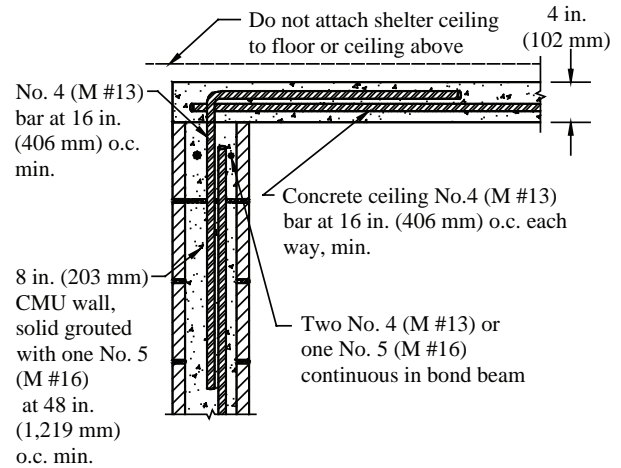

Figure 2
A ceiling system using 7-in. (178-mm) deep bottom chord bearing steel joists infilled with concrete masonry units and grout to a nominal 8-in. (203-mm) depth was also tested and found to withstand the 15 lb 2 x 4 at 67 mph (608 kg 38 x 89 mm at 30 m/s) protocol (ref. 1). No. 4 (M #13) reinforcing bars were placed perpendicular to the joists, at 8 in. (203 mm) on center. (see Figure 2 for a typical Shelter Wall/Ceiling Connection.)
- connections between building elements must be strong enough to resist the design wind loads. Figure 2 shows a typical detail for connecting a concrete roof slab to concrete masonry shelter walls, using reinforcing bars to provide adequate load transfer.